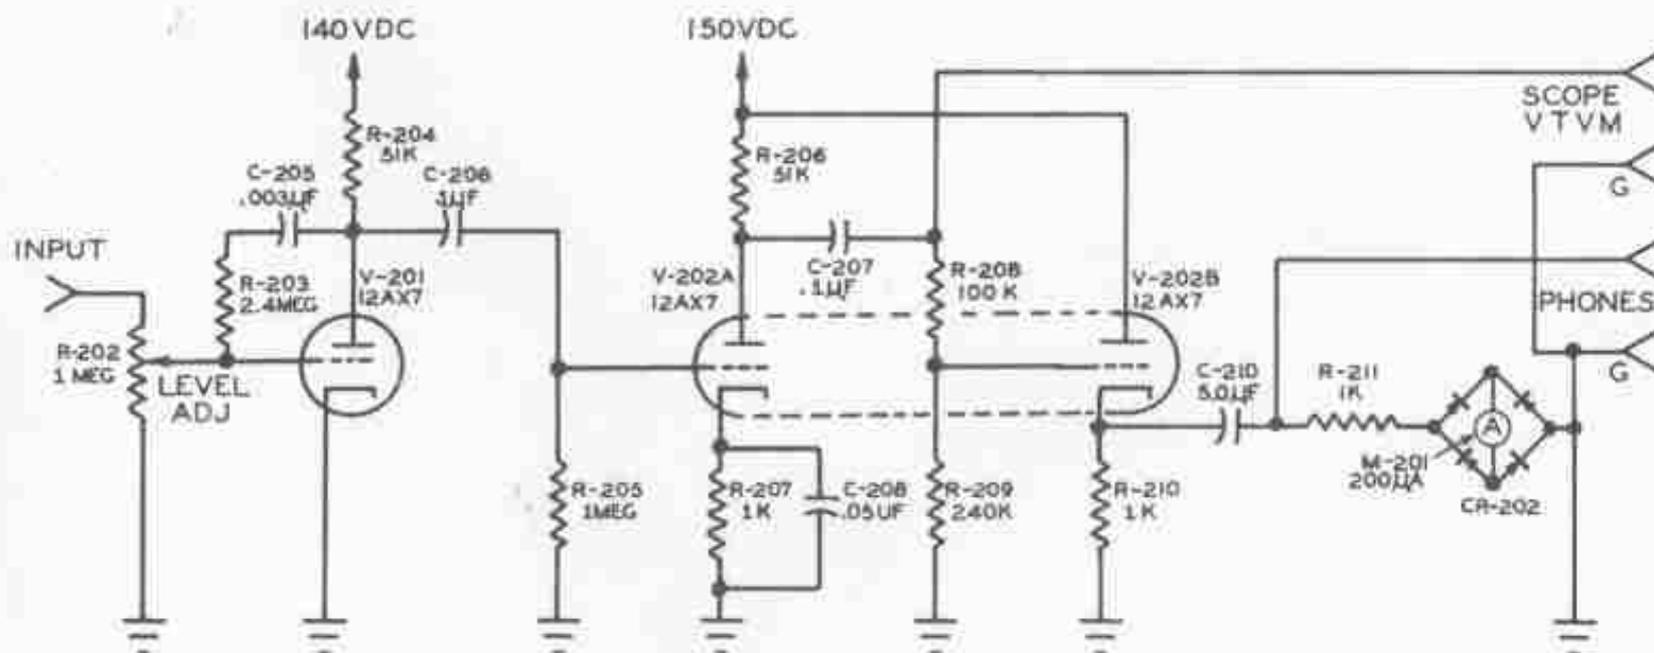

Figure 2-3. Simplified Schematic, Signal Tracer
d. BASIC CIRCUIT OF SIGNAL TRACER TS-673/U. (See figure 2-3.) - This unit comprises a conventional three-stage linear amplifier, the output of which is of the cathode follower type, and a power supply capable of operating on 50- to 1600-cycle source. The power supply is of the full-wave type with capacitor input and resistor-capacitor filter network. The power trans-